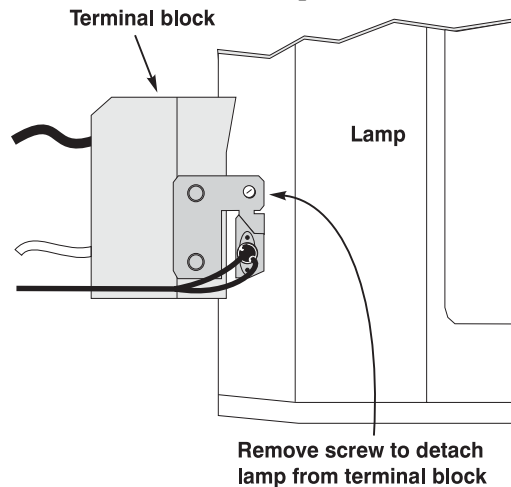

Figure 4.5. Detach lamp from terminal block (TOP VIEW)
- Remove the single screw securing the lamp module to the terminal block. See Figure 4.5. The lamp should now be fully free—refer to the recycling/disposal instructions provided with the new lamp kit.